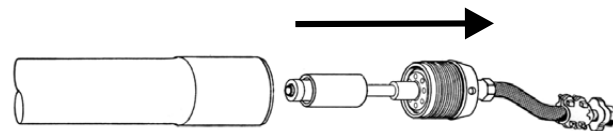

Figure 8-3. Removing Tail Assembly.
3. Remove the tail assembly by unthreading the End Cap (10) and pulling the Tail Assembly from the Body/Anvil (1) as shown in Figure 8-3.